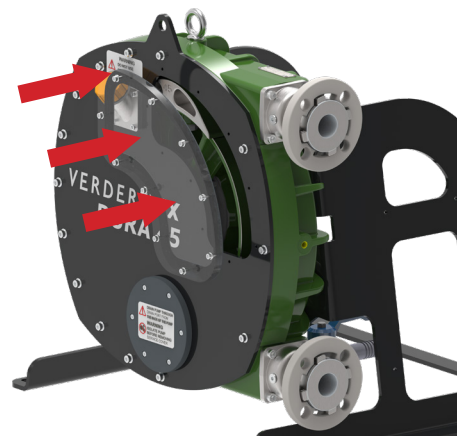

Figure 10. - Fitting the inspection window
3. Mount the window unit, with the bolts and gasket, over the front cover, aligned as shown in Figure 10.